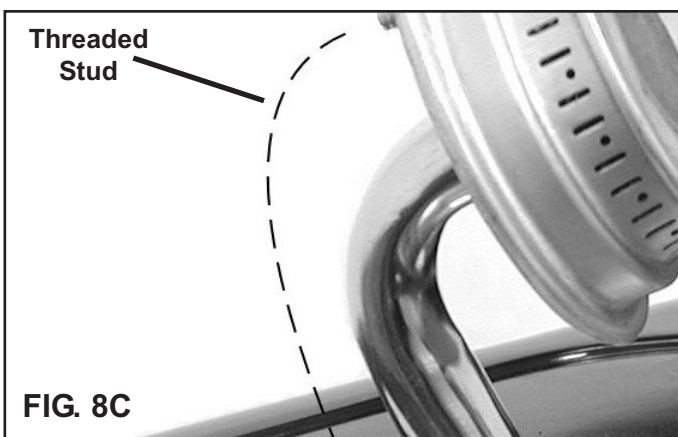
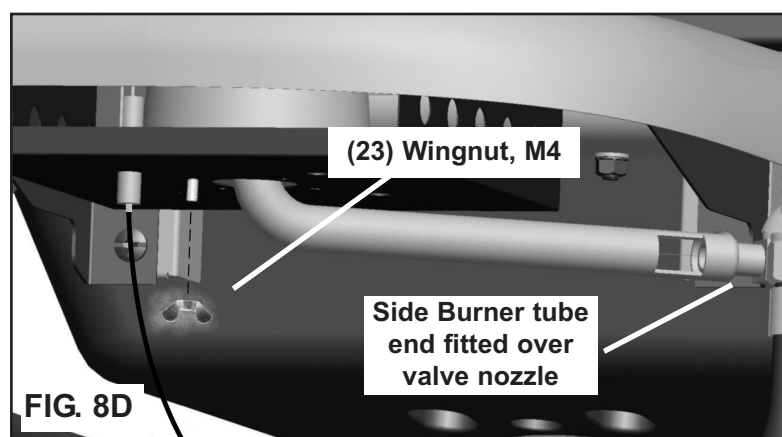

FIG. 8C
FIG. 8D
- Insert Side Burner tube through large hole in Side Burner Pan. Allow threaded stud to go through hole in Electrode bracket while laying the Burner flat. (FIG. 8C) Be sure to fit the Side Burner tube over the Side Burner valve nozzle. (FIG. 8D) Secure Side Burner with M4 Wingnut.